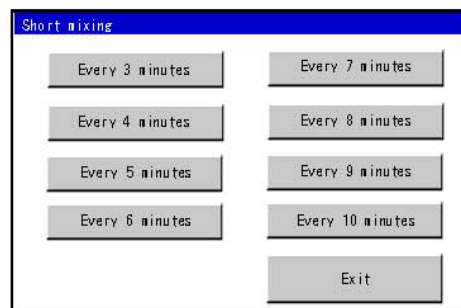

Figure 3-GGG
- The Short Mixing Window displays (Figure 3-GGG).